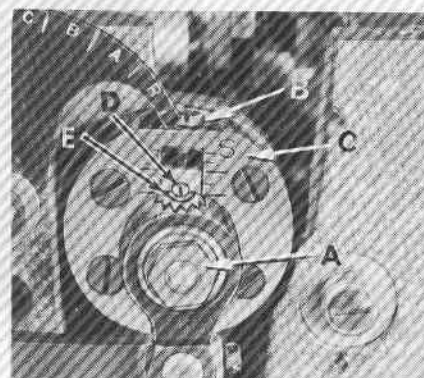

Fig. 12
Set the stitch to the required length. This is accomplished by loosening locknut (A, Fig. 12) (it has a left hand thread) and turning the stitch adjusting screw (B). Turning screw (B) clockwise shortens the stitch and turning it in a counterclockwise direction lengthens the stitch. The head of the main-shaft (C) is marked with a "S" and an "L", moving the stitch regulating stud toward the "S" shortens the stitch and toward the "L" lengthens the stitch. Retighten locknut "A". To prevent destructive damage to the feed drive